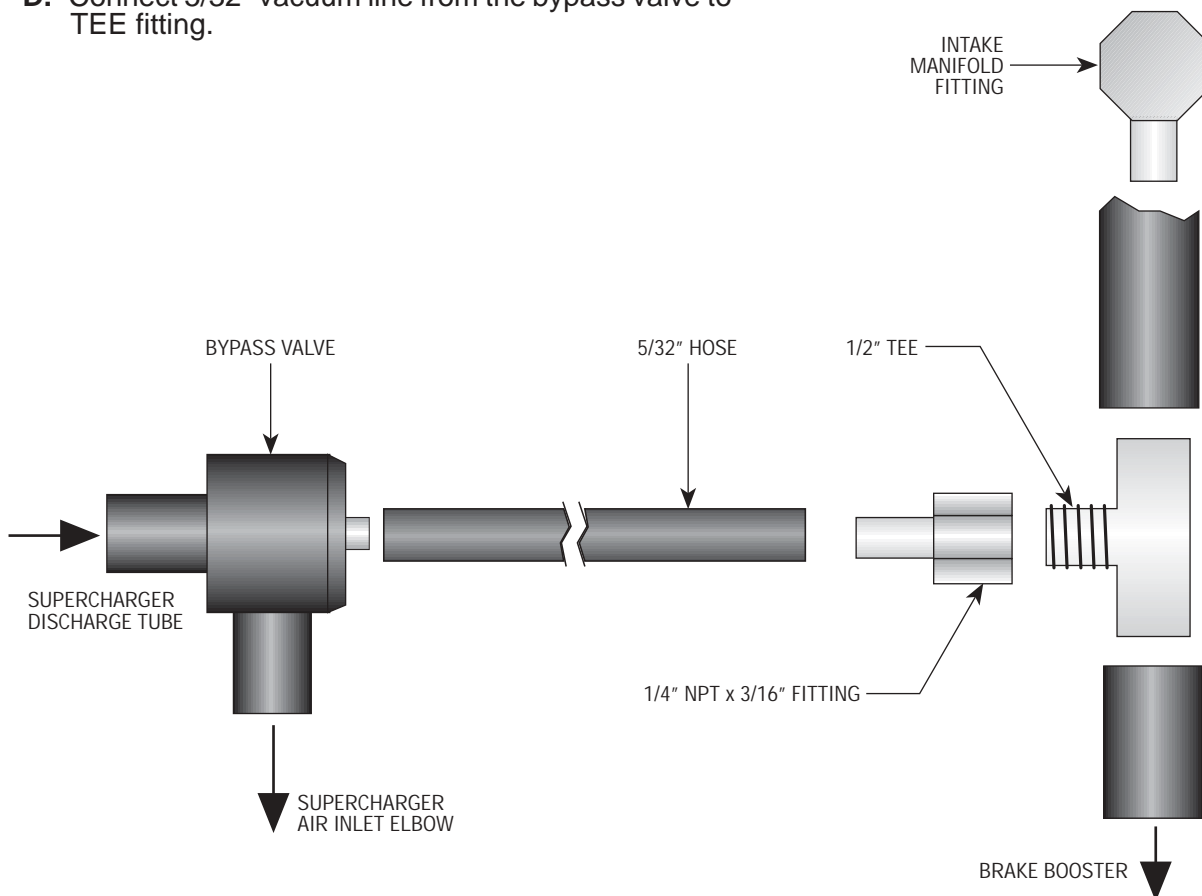

Fig. 12-a
- C. Cut brake booster vacuum hose as shown (see Fig. 12-a) and insert plastic TEE fitting and 3/16" barb.